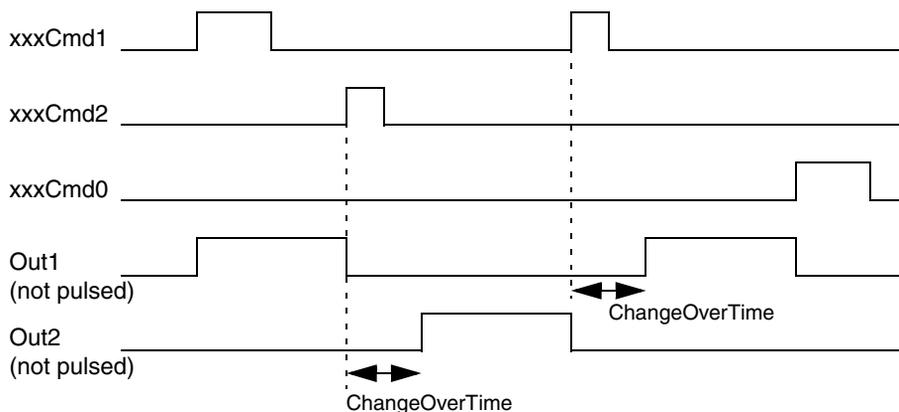

Figure 157. Change-over action state diagram
(switching forward/reverse). The parameter *ChangeOverTime* sets a delay time, before the direction can be changed (see Figure 157).
- The *Ilock1*, *Ilock2* and *Ilock0* interlocking parameters block commands in all modes, so that the object cannot be forced to the activated or deactivated states, respectively. The *Inhibit* signal will suppress interlock signals when True. Figure 157 shows which changes between states that are blocked by interlocking parameters.